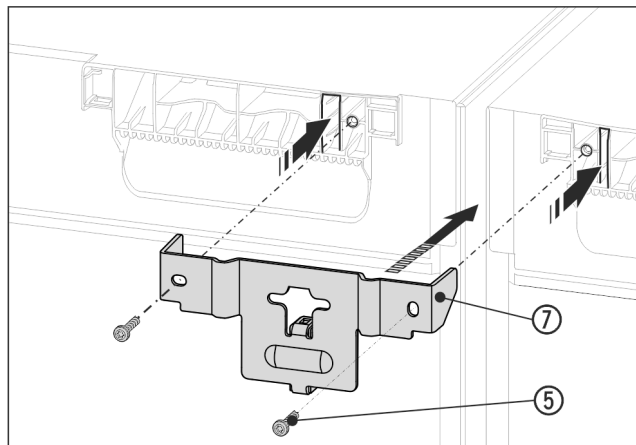

Fig. 15 Example illustration
- ▶ Slide the bracket Fig. 15 (7) with the spacer between the appliances and onto the appliance ceiling with the lugs. Tighten with 2 screws Fig. 15 (5).